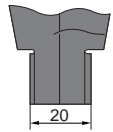

fig.3
6. The correction(fig.3, except series 1135) "INSIDE +20mm" of internal measurement is on the obverse side of measuring jaws. When using the circular internal measuring faces to measure, the measurement should be the sum of the reading and the correction. If the correction has been setted as initial reading, the measurement will equal the reading.